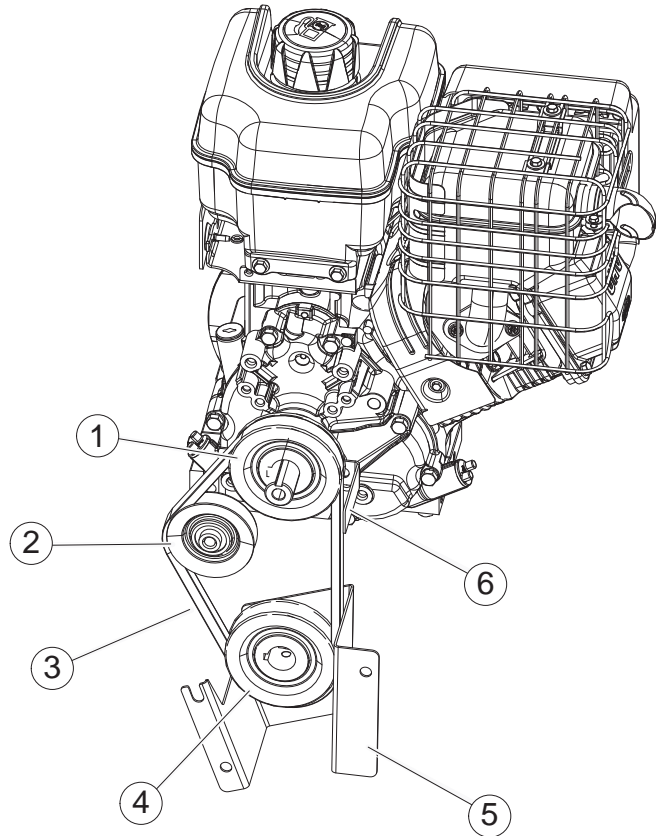

Figure 5.11
2. Loosen set screws and using a straightedge align the engine pulley (1) with the idler pulley (2) and the rotor pulley (4) with the engine pulley (1). See Figure 5.11. Tighten all set screws.
3. Engage the clutch with the belt (3) in place and check idler engagement. See Figure 5.11. The idler pulley should impact the belt in the center of the pulley. All pulleys must be in perfect alignment. Torque pulley set screws to 160 In-lbs.